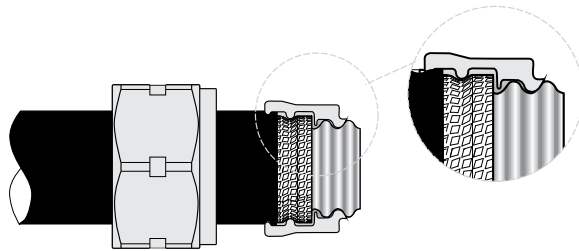

Fig. 4-20
**STEP 3 INSTALL NUT AND BUSHINGS (FIG. 4-20)**